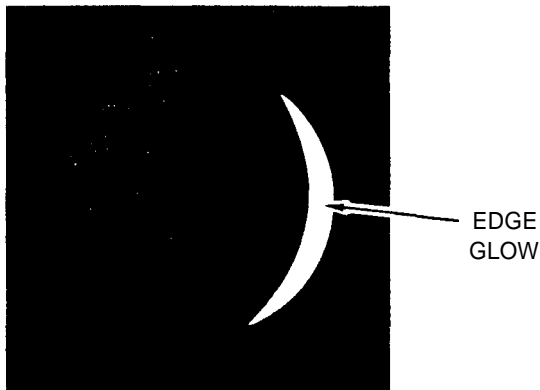

Figure 2-10. Edge Glow
(2) **EDGE GLOW.** This is a defect in the image area (fig. 2-10). Edge glow is a bright area (sometimes sparkling) in the outer position of the viewing area. To check for edge glow, cover lens to block out all light, If the image intensifier is displaying edge glow, the bright area will still show up,